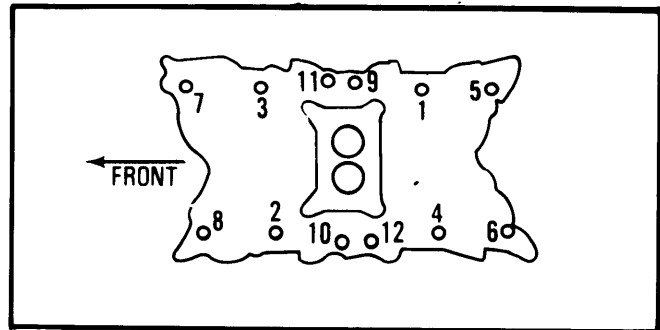

Fig. 1 Intake Manifold Tightening Sequence
3) Place manifold in position on engine. Tighten bolts to specification in 2 steps in sequence shown in Fig. 1. After completion of intake manifold installation, retighten manifold bolts in sequence with engine at normal operating temperature.